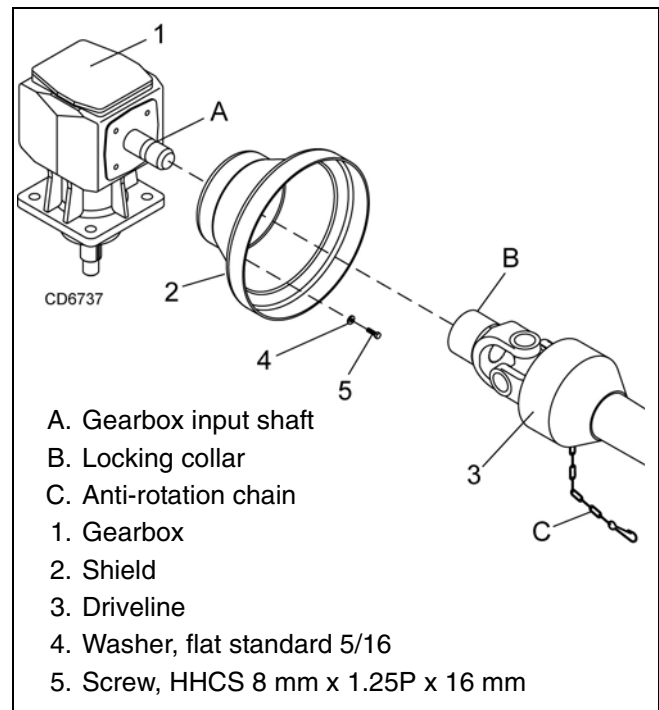

Figure 32. Rear Driveshaft Installation
Attach shield (2), Figure 32, to gearbox (1) with cap screws (5) and flat washers (4).